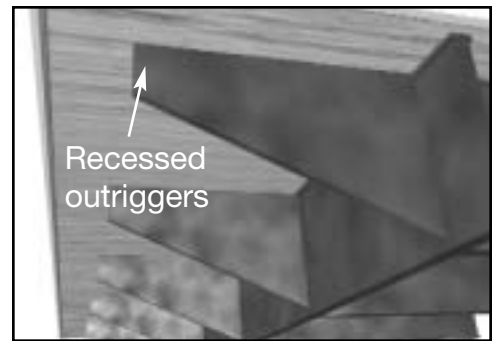

Fig. 1
1. If the outriggers and the hitch plate are both recessed, StoneSkirt columns should be installed underneath the floor joist of the home. (Fig. 1 & 3)